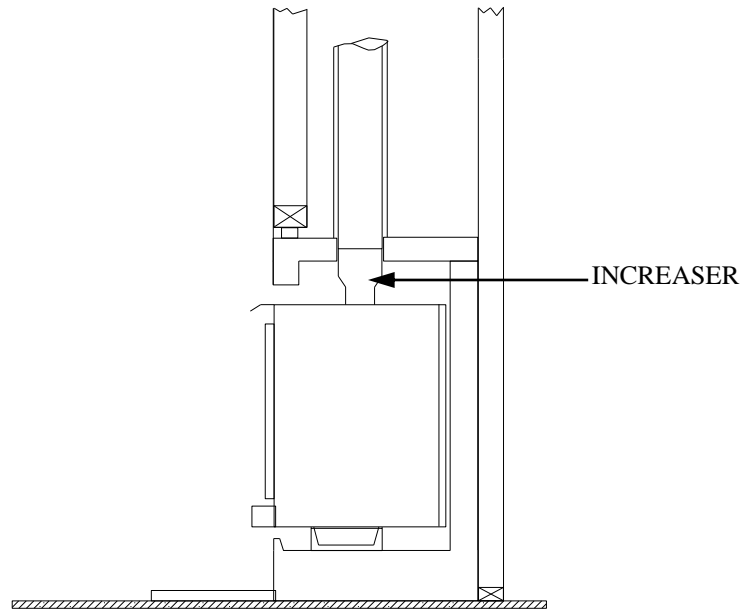

FIGURE 2
1. The preferred method is to use an increaser made of 24 ga. (minimum) stainless steel to go from 6” inside diameter to exact diameter of fireplace throat/chimney. (See Figure 2).